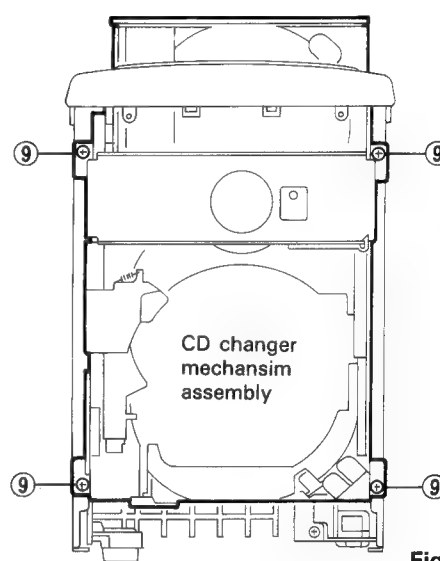

Fig. 7-11
5. From right above the body, remove the four screws ⑨ retaining the CD changer mechanism assembly (Refer to Fig. 7-11).